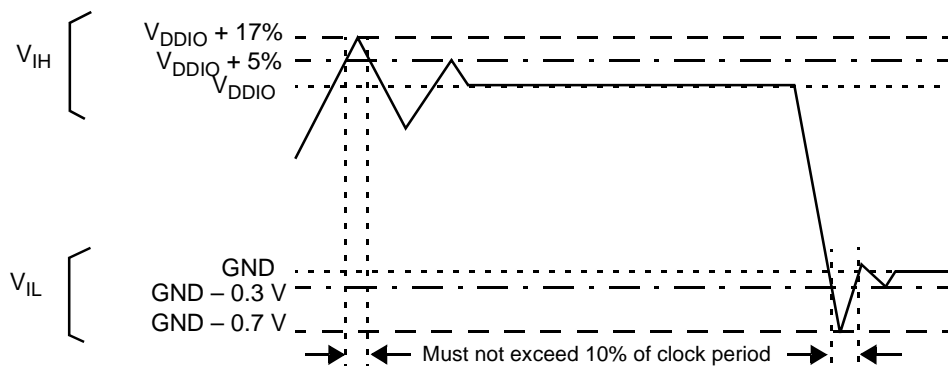

Figure 6. Overshoot/Undershoot Voltage for  $V_{IH}$  and  $V_{IL}$
Notes: 1. See Figure 6 for undershoot and overshoot voltages. 2. Not tested. Guaranteed by design.
- See Figure 6 for undershoot and overshoot voltages.